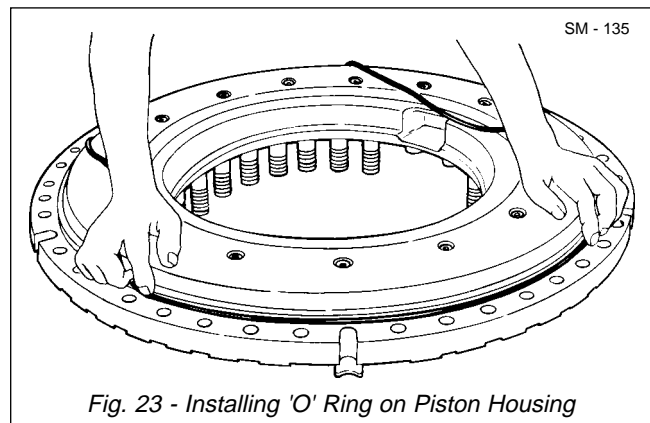
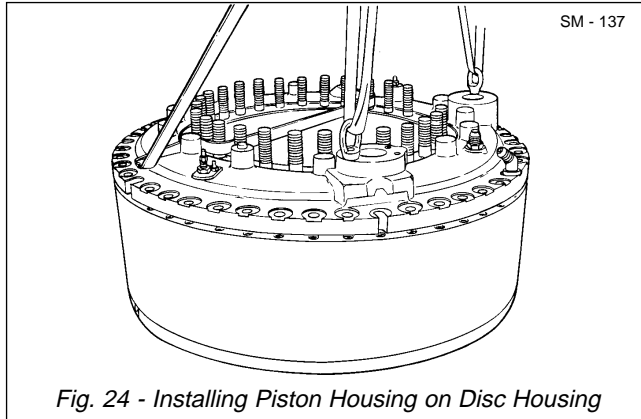

Fig. 23 - Installing 'O' Ring on Piston Housing
Fig. 24 - Installing Piston Housing on Disc Housing
33. Install new 'O' ring (37) on piston housing assembly (41) as shown in Fig. 23.
34. With a suitable lifting device, turn piston housing assembly (41) over, with service piston (31) down.
35. If removed, install bleeder valves (50 & 54) in piston housing assembly (41).
36. If plug (49) was removed, install new 'O' ring (48) on plug and install plug in piston housing assembly (41).
37. Using a suitable lifting device attached to piston housing assembly (41), position piston housing assembly (41) on disc housing (25), making sure dowel pin holes in housing are aligned with dowels (26) on disc housing. Gradually lower piston housing onto disc housing. See Fig. 24.
38. Install five socket head screws (45), with